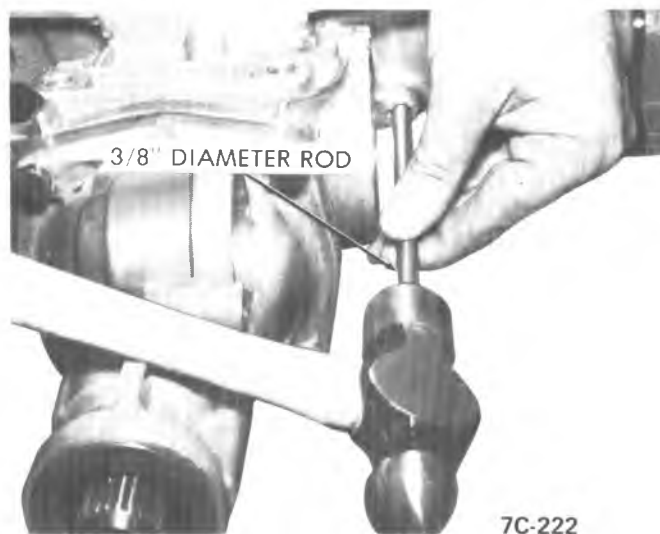

Figure 7A5-93 Parking Pawl Shaft
6. Install park lock bracket, using 2 special bolts (GM 300M, 6 marks on head) and torque bolts to 29 ft. lb. (39 N·m) (Figure 7A5-94).